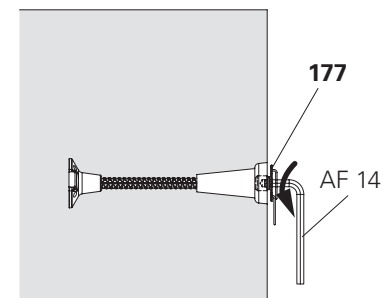

Fig. A3.28
4. Bend wire nails $\varnothing 3 \times 80$ (178) over in order to protect hands.
5. Remove Anchor Positioning Stud M30 (177) using Allen key AF 14.
- (Fig. A3.28)